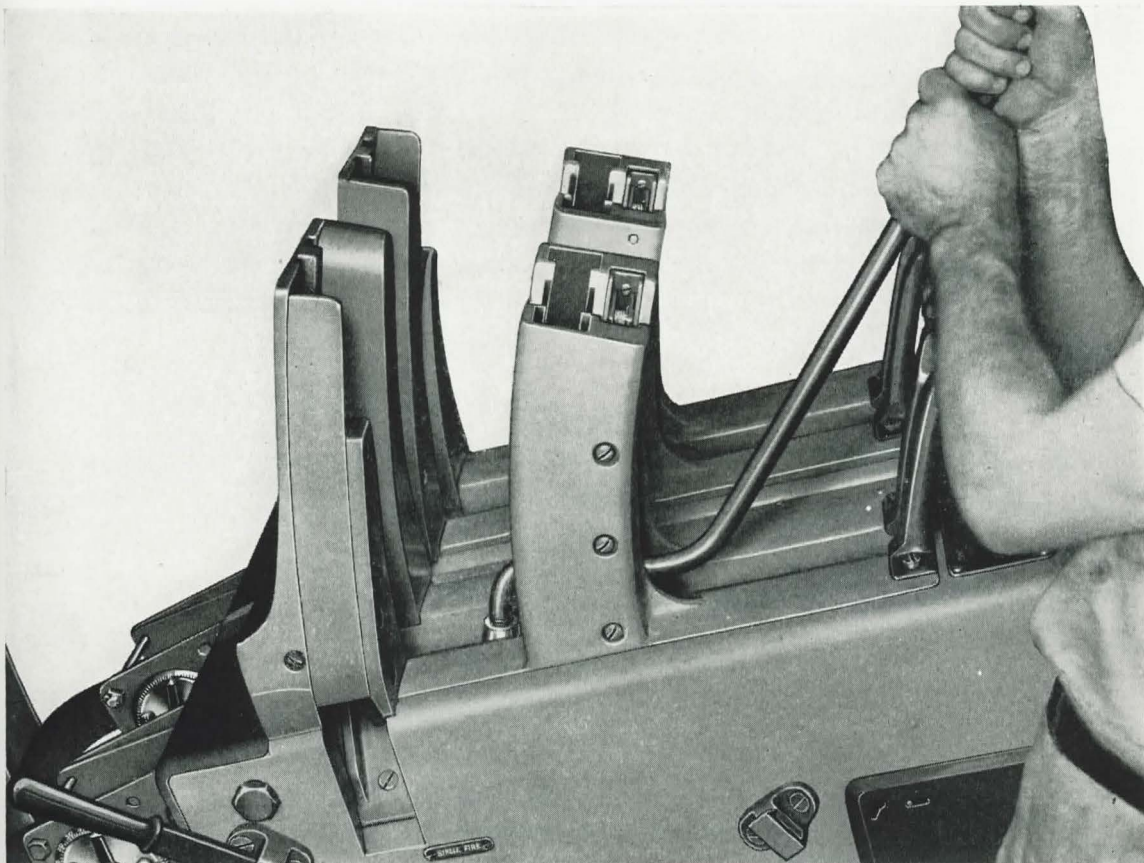

Figure 41
7. Using the pusher tool (298876), **Figure 41**, force the round on the star wheels down on to the rammer tray. Remove the round.